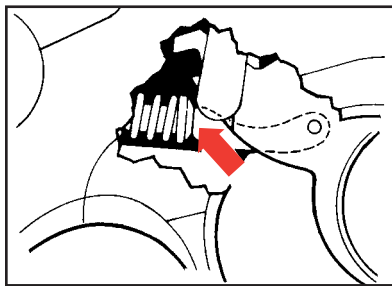

Figure 17
3. With the trigger forward, replace mainspring lever with mainspring and strut into frame. *Be sure that the front end of the mainspring strut is properly positioned on the trigger link at the rear of the trigger* (positioning can be seen by looking down through hammer slot). Then replace lever pivot pin (See Figure 17).